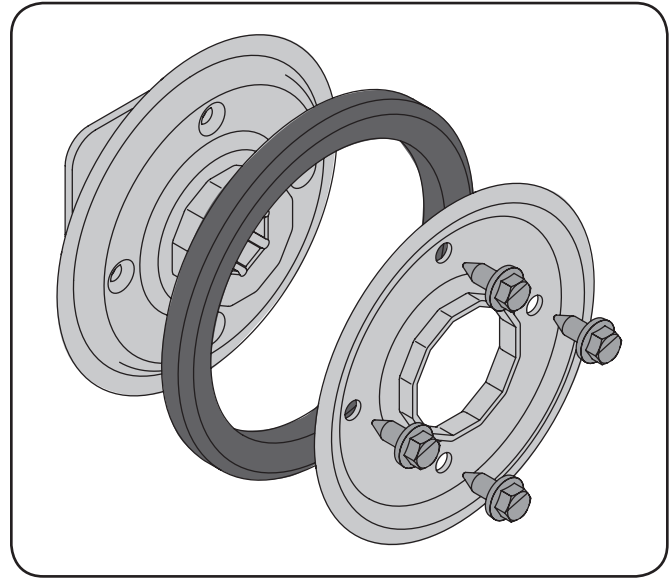

Figure 7-11
- Remove the four screws which secure the friction wheel's side plates together. See Fig. 7-11